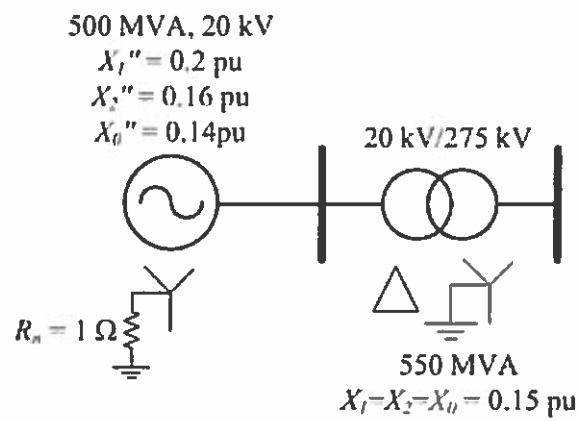

Figure 5.1: Single line diagram for the system in Problem 5(b)
5. b) A 20 kV, 500 MVA three-phase generator has a star connected stator winding with the neutral point grounded through a 1Ω resistor. The positive, negative and zero sequence sub-transient reactance for the generator are 0.2 pu, 0.16 pu and 0.14 pu, respectively based on the rating of the generator. The generator supplies a delta-star connected 20 kV/275 kV, 550 MVA step-up transformer with its neutral point solidly grounded as shown in Figure 5.1. The leakage reactance of the transformer is 0.15 pu. Neglect the pre-fault current and fault impedance and assume the pre-fault voltage to be 1.0 pu. Choose 60 MVA as the system base. Consider fault current contribution from the generator only and assume zero contribution from the system on the 275 kV side of the transformer.